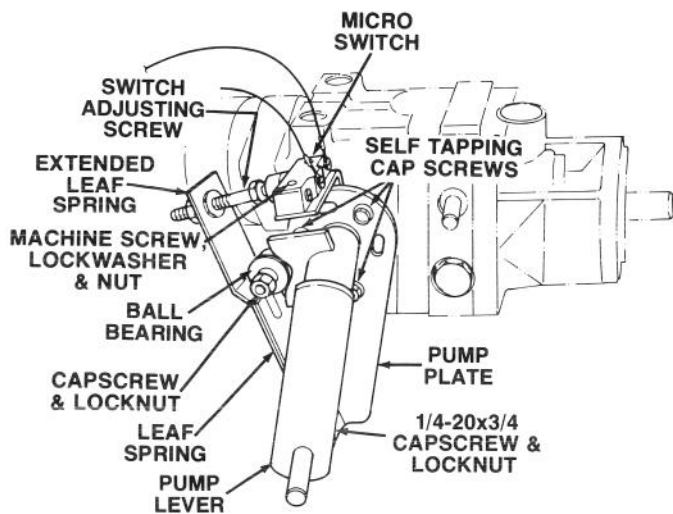

Figure 12
1. Pump control rod from pump lever and the pump lever from the transmission shaft (Fig. 12).
1. The micro switch to the pump plate and the pump plate to the transmission (Fig. 12). Tighten the pump plate screws enough to secure it against the housing but still allow the plate to be moved for final adjustment.
2. Actuate the pump lever (Fig. 12) to assure all parts are operating freely and seated properly.
3. Rotate switch adjusting screw (Fig. 12) until there is a gap between top of screw and switch button.
6. Because the wheel is rotating, the pump plate must be adjusted. But before adjusting the pump plate, move throttle to SLOW. If wheel is rotating forward, lightly tap bottom of pump plate counterclockwise (Fig. 12). By contrast, tap pump plate clockwise if wheel is rotating backward (Fig. 12). When wheel stops rotating, tighten cap screws holding pump plate against side of transmission.